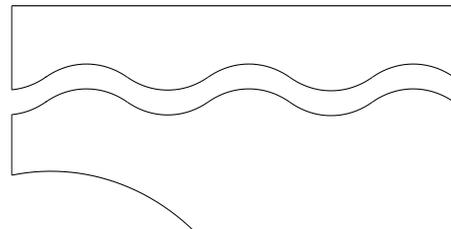

figure 4
- When cutting curves, you must ratchet the material through the cutters and rotate the material at the same time. Using this method you will be able to achieve results similar to that shown in (fig. 4)